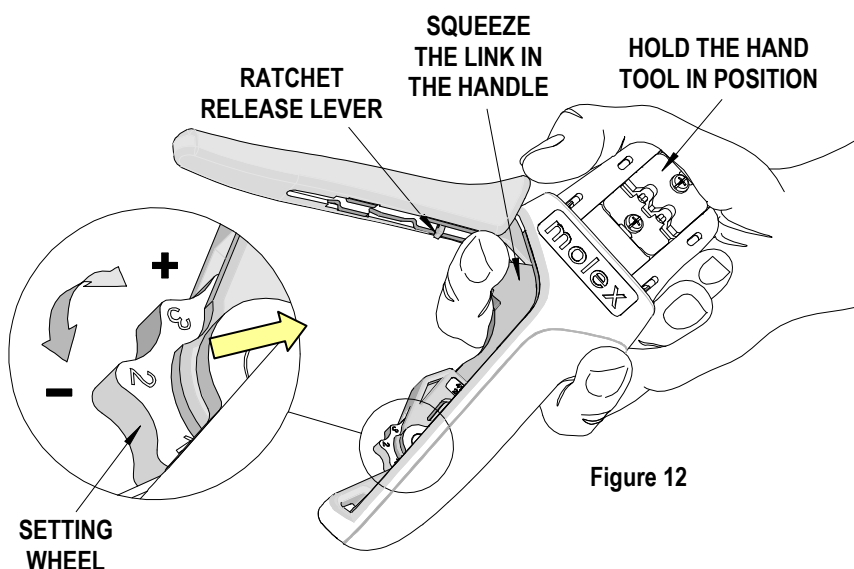

Figure 12
## How to Adjust Tool Preload (See Figure 12)
1. Hold the hand tool in the palm of your hand as shown in Figure 12. Using the index finger squeeze the link towards the top of the hand tool frame. This will release the preload adjustment wheel.
2. Rotate the setting wheel counter-clockwise (CCW) to increase handle force. The numbers will display higher. To decrease handle force rotate the setting wheel clockwise (CW).